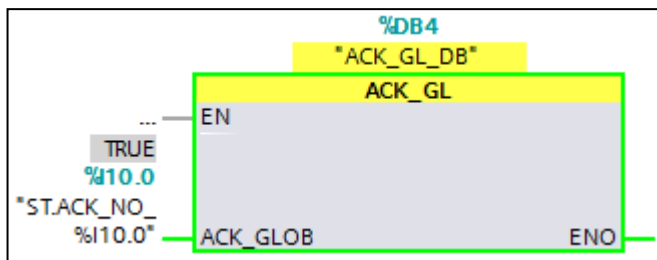

Figure 108: TIA – F-program » Depassivation by means of 'ACK_GL' (STACK_NO_%I10.0)
- ▶ The PSS u2 system must now be depassivated first (Network 7, see Figure 108 on next page):
- ▶ Only now can the PSS u2 system be depassivated (see Figure 108 [book 66]), then the head module LED 'SO' lights green again.